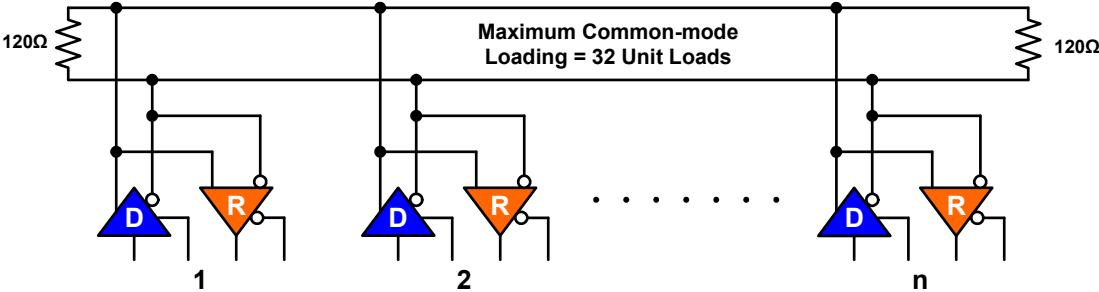

Figure 4. RS-485 Multipoint Bus: Multiple Drivers and Multiple Receivers
- Figure 4. RS-485 Multipoint Bus: Multiple Drivers and Multiple Receivers 3
RS-485 is a bidirectional multipoint interface, which allows for multiple drivers to be connected to the same bus (Figure 4). To avoid bus contention, bus access is controlled with driver enable pins. Only one driver can access the bus at a time.